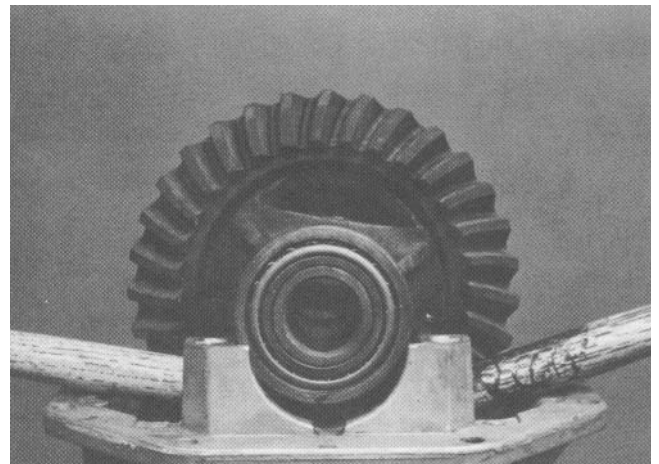

Figure 24
4. To remove the differential assembly, place two wooden devices (e.g. hammer handles) under the differential case and pry firmly upward. Mark the bearing cups and cones, they must be reinstalled in matched sets (Fig. 24).